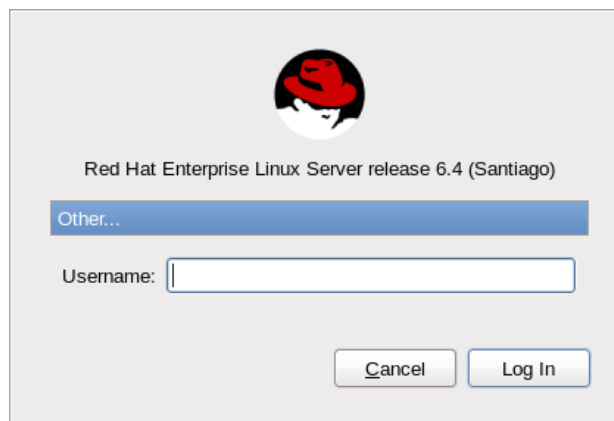

Figure 5: Username Field Sign-In
3. A prompt appears asking you to provide a username like Figure 5.